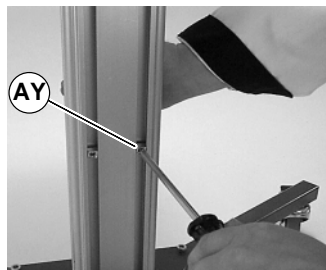

Figure 35
2. Insert spring nuts (AY) in post (Figure 35).